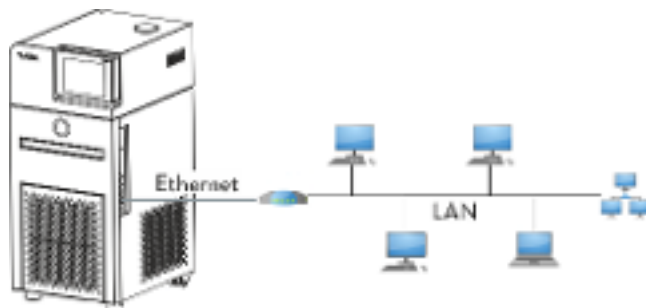
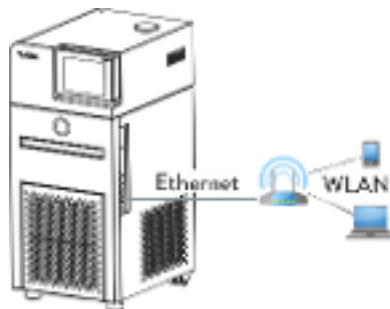

Fig. 15: Connected via LAN
Fig. 17: Connected via WLAN
Fig. 15 illustrates how the constant temperature equipment is connected to a control station/PC via a LAN network.
Fig. 17 illustrates direct communication between the control station/PC and the LAUDA constant temperature equipment via a WLAN. The WLAN router must be configured as an access point. Refer to the instructions accompanying the router for information on configuring the WLAN router.
- Commercially available WLAN routers can be used for the connections displayed in Fig. 16 and Fig. 17. The routers must have the necessary connection function and meet the requirements in the relevant country in which they are operated. However LAUDA recommends using an industrial WLAN router for the configuration illustrated in Fig. 16.
11. Connect the Ethernet interface on the constant temperature equipment as illustrated in Fig. 15 to Fig. 17. Use a commercially available Ethernet cable (patch cable).
7. Connect the Ethernet interface on the constant temperature equipment as illustrated in Fig. 15 to Fig. 17. Use a commercially available Ethernet cable (patch cable).